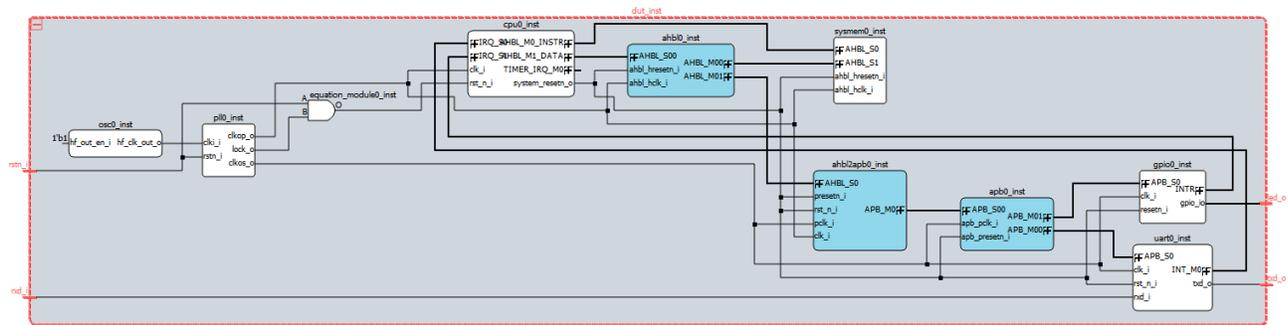

Figure 2.69. Whole SoC Design
10. Click the plus sign  of this dut_inst DUT block. You can see the whole SoC Design (Figure 2.69). Click the negative sign  to close the expanded bus.